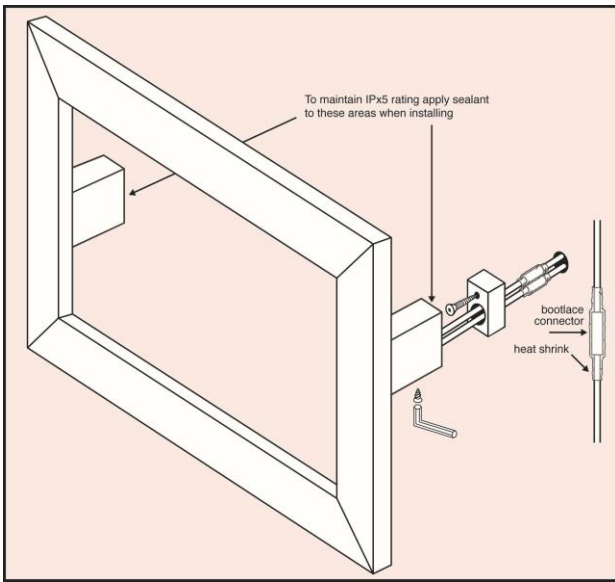

Fig 4
3. To maintain IP45 rating, apply sealant to faces indicated in Fig 4 below